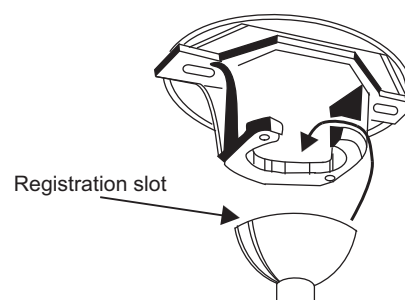

Figure 9
Step 9. Place the downrod ball into the hanger bracket socket. (Fig. 9)